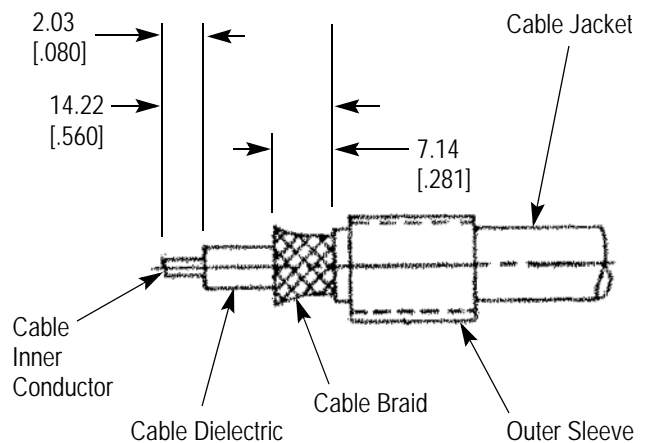

Figure 2
3. Trim the cable braid to the dimension specified in Figure 2.
4. Trim the cable dielectric to the dimension specified in Figure 2.
5. Trim the inner conductor to the length specified in Figure 2.